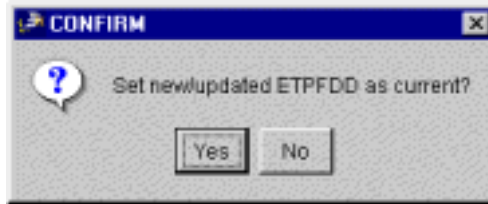

Figure 5.12 CONFIRM Window
7. Click Append. The CONFIRM window opens (Figure 5.12).